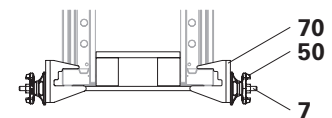

Fig. D8.04a
- Top Tie Holder-2 AH (70) with Tie Rod DW15 (7) and Wingnut Pivot Plate DW15 ga (50). (Fig. D8.04a)